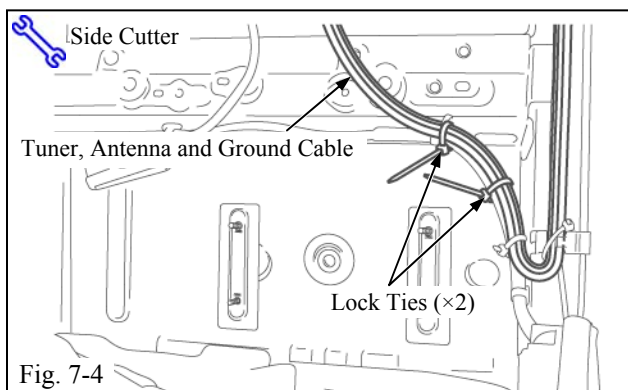

Fig. 7-4
- (2) Route the cables as shown and secure them using two (2) lock ties starting from outside. (Fig. 7-4)